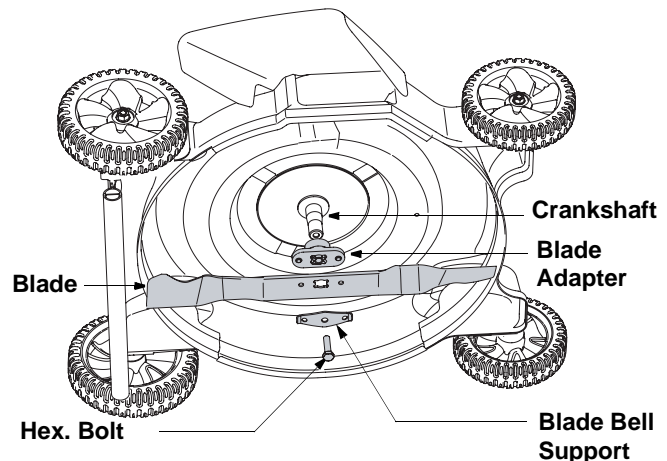

Figure 11
- Remove the bolt and the blade bell support which hold the blade and the blade adapter to the engine crankshaft. See Figure 11.
- Install the blade adapter on the crankshaft with the “star” away from the engine. See Figure 11. Place the blade with the side marked “bottom” (or with part number) facing away from the adapter. Align the blade bell support over the blade with the tabs in the holes of the blade and insert the hex bolt.